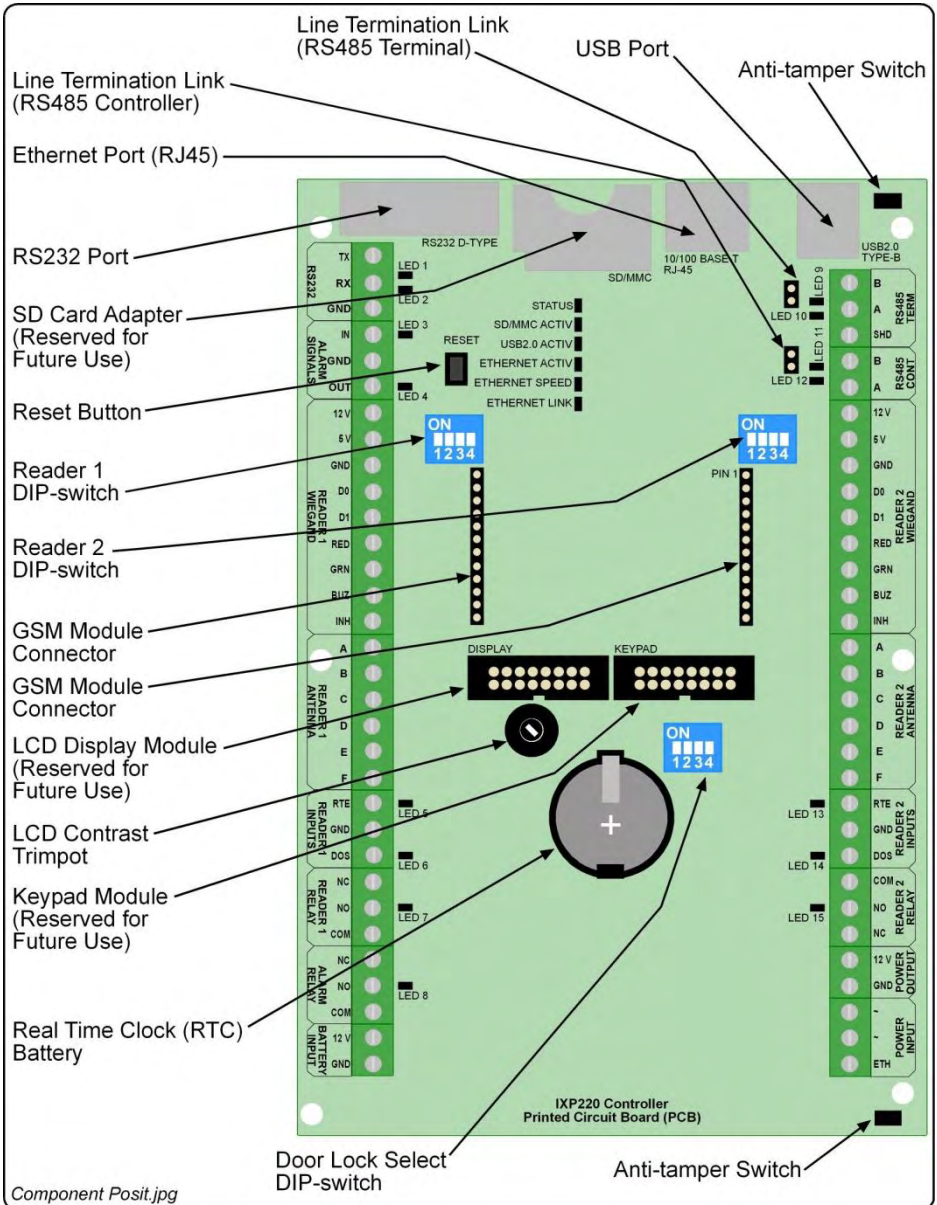

Figure 4: Key Component Positions
Refer to Figure 4 for the location of the Real Time Clock Backup Battery Holder.
3. Locate the GSM Module Connectors (See Figure 4).
Using a 2 mm flat screwdriver, adjust the Trimpot (See Figure 4 for location) as follows: